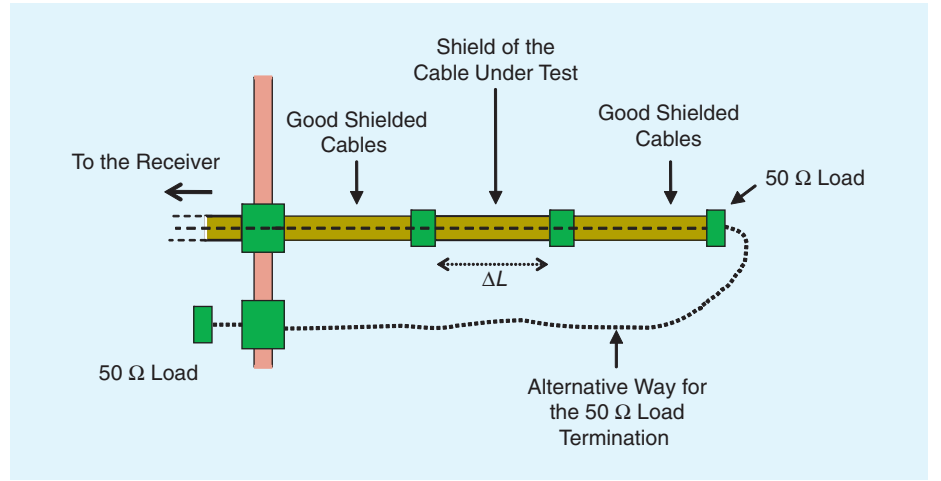
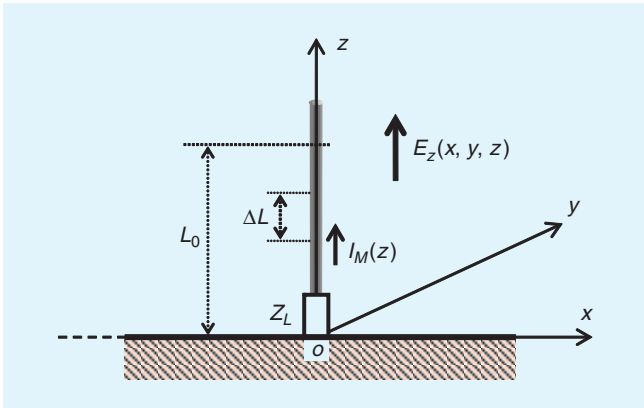

Fig. 2. Details of the Cable Under Test arrangement.
Fig. 3. Outer surface of the cable under test behaves like a short circuited electric monopole.
Figure 2 adds more details to the installation of cables under test of a dimension ΔL close to 10 cm. The sample so configured will be extended at the extremities by two pieces of high-immunity shielded coaxial cables. The dimensions of these additional cables must be bigger than the wavelength required by the lowest frequency found during measurements. For example, for 1 GHz, corresponding to a wavelength of 30 cm, the dimensions will be at least the double of λ , which is larger than 60 cm. It has to be remarked that the sample of the cable under test ΔL will be placed in a zone where the average amplitude of the field is statistically uniform. Studies of reverberation chambers show that this condition is satisfied when the distance from metallic walls is at least larger than a quarter wavelength. Thus, for a minimum frequency of 1 GHz, with a distance of 7.5 cm between the walls, the field uniformity is achieved. More details about the reverberating chambers may be found in [7], [10], and [11].
Figure 3 represents an electric monopole connected to an infinite perfectly conducting plate with load impedance Z_L . In this figure, $E_z(x, y, z)$ represents the electric field in the chamber, with polarization parallel to the monopole.
It can be proved that, in a properly calibrated chamber, $E_z(x, y, z)$ behaves like a random variable. The probability distribution of the real and imaginary components follow the Gaussian distribution. Let's consider in the meantime the field E_z in any point of the surface where the monopole in Figure 3 will be placed, namely $E_z(0, 0, z)$ with $0 < z < L_0$. Whenever the wavelength is much lower than L_0 , the projection of the field E_z on the monopole behaves exactly as a random variable, and the same will be for the induced current $I_M(z)$. It can be demonstrated that the variables E_z and $I_M(z)$ obey the ergodicity principle. That is to say, an observer set in any point of the monopole observes, as a consequence of stirrer rotation, that the amplitude of the random variables E_z and $I_M(z)$ follow a distribution of probability similar to that observed if he moves along the oz direction of Figure 3.
We know that when a measurement is performed on the load impedance Z_L connected to the base of the monopole of Figure 3, the average power $\langle P_r \rangle$ collected on N_s positions of the mode stirrer will be expressed as:
the term $\langle I_M^2 \rangle$ represents the mean square amplitude estimate of the current I_M induced on the monopole for the previous N_s plane waves configurations. If we apply this argument to the cables under test, the extremity of which opposite to the chamber wall is left in open circuit, namely without the link marked by the dotted line in Figure 2, the current I_s induced on the shielding is thus similar to the current induced on the monopole in Figure 3 short circuited to the base, being $Z_L = 0$.
As long as the dimension of the receiving antenna used for measuring power is larger than the wavelength, the average power $\langle P_r \rangle$ will be equal to the power collected on load impedance Z_L on the monopole in Figure 3. Consequently, if we take the ratio between (13) and (9), the result is very similar to the shielding attenuation described in (5), hence: